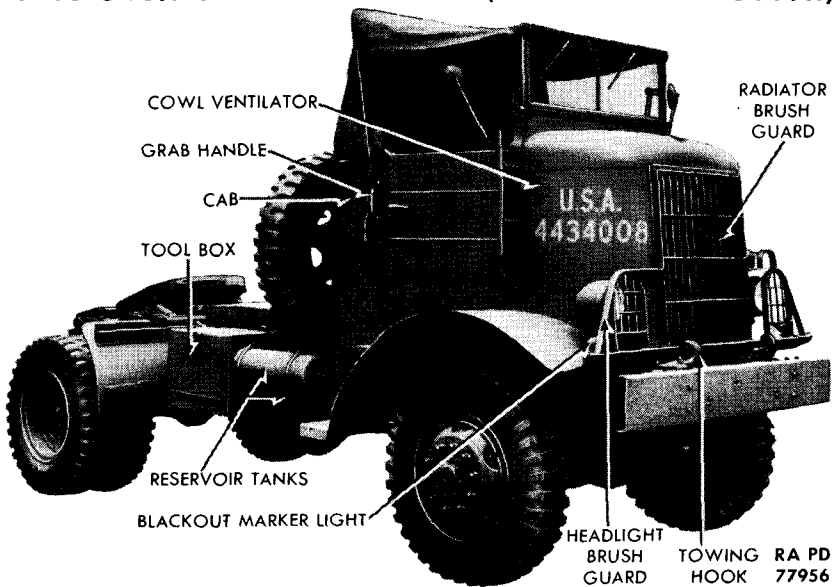

Figure 1 — Truck — Right Front
2. DESCRIPTION (figs. 1 and 2).